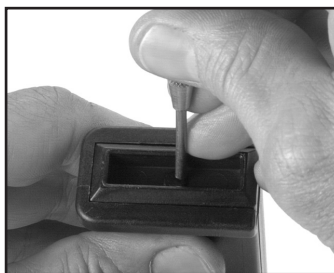

Fig. 30
1. Depress locking plate through magazine floorplate and slide magazine floorplate to the rear (Fig. 30).